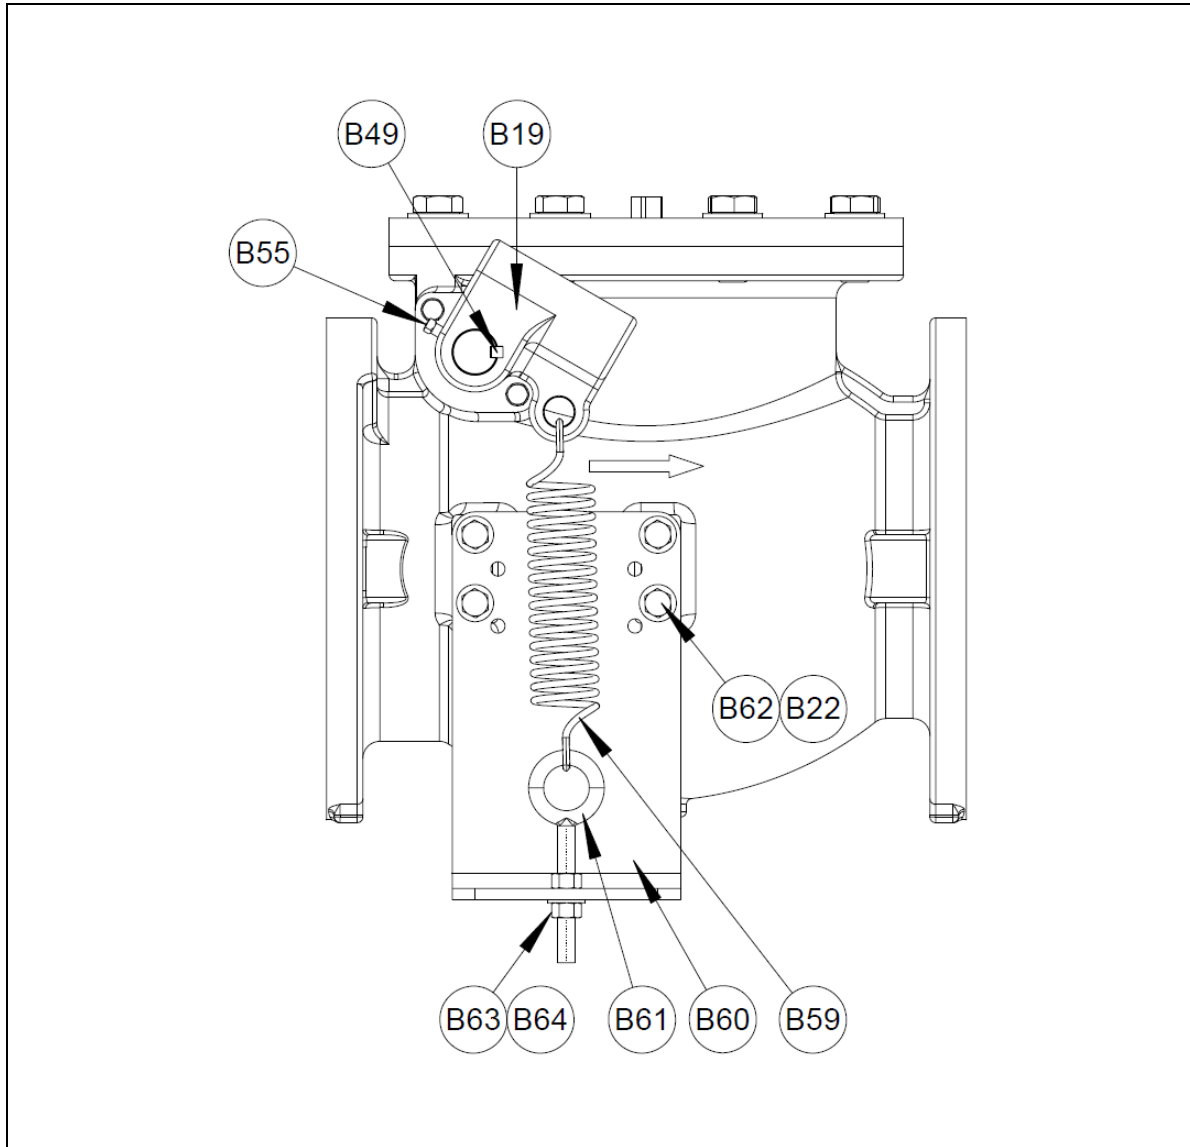

Figure 4: Lever & Spring (LS) Assembly
b. Valves equipped with Lever & Spring (LS) only (Figure 4):